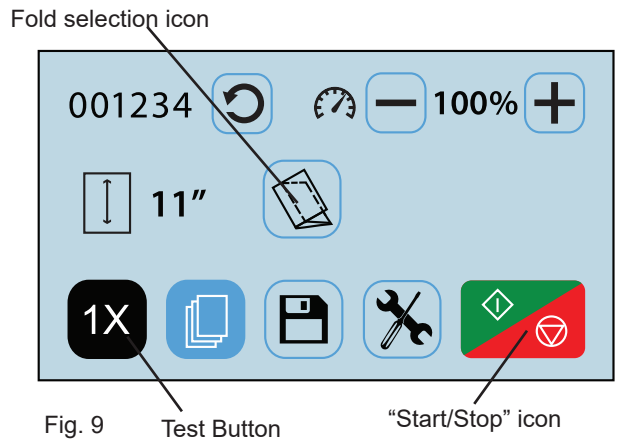

Fig. 8
5. FD 38Xi ONLY: Adjust infeed tray tension lever (Fig. 8) for different paper weights. Move the lever up towards the "-" symbol for lighter paper and down toward the "+" symbol for heavier paper. The middle position is for standard paper weights.